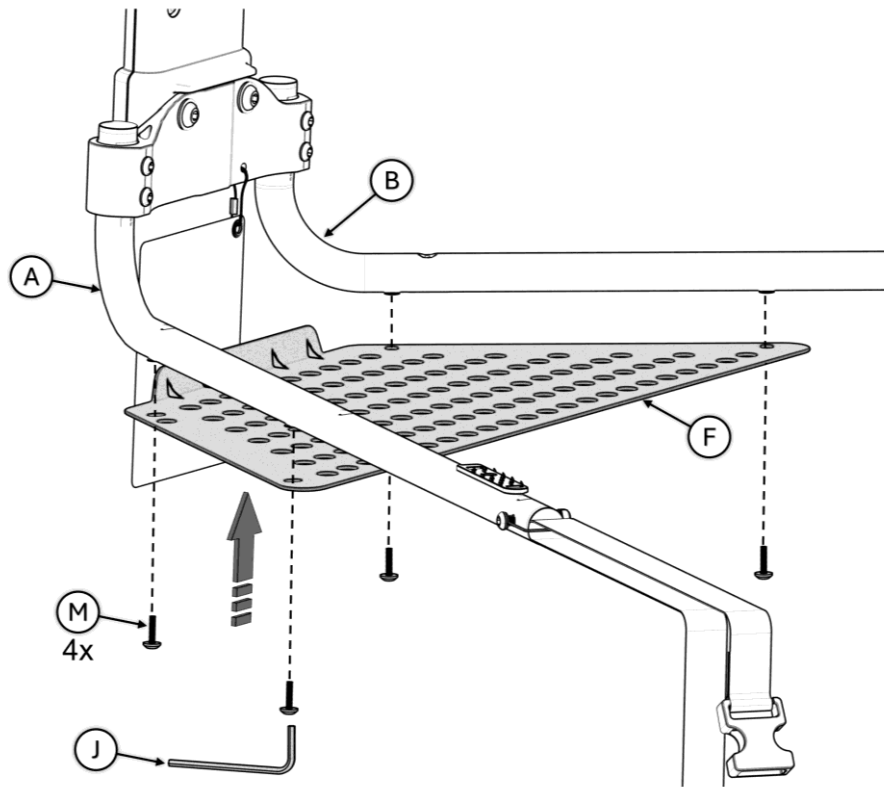

FIGURE 11
11. Secure Safety Guard **F** to Legs **A** and **B** with Bolts **M** (4x) using Tool **J**, as shown in *FIGURE 11*.